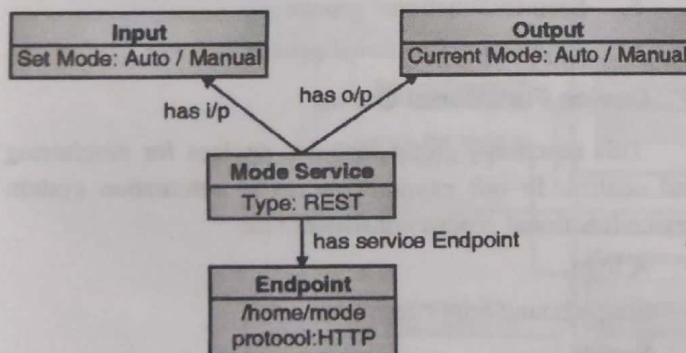
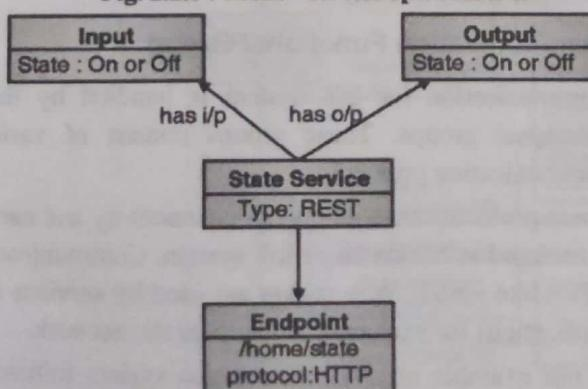
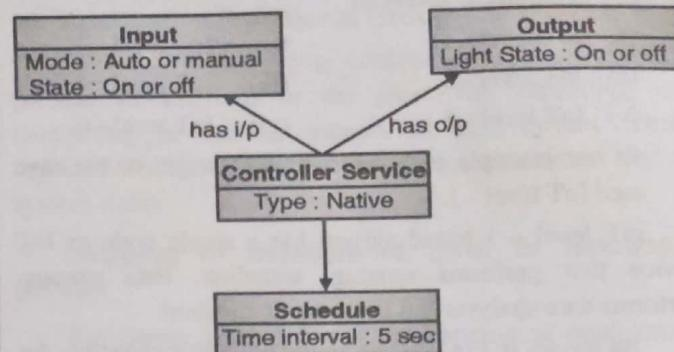

Fig. 2.2.6 : Mode - service specification
Fig. 2.2.7 : State Service Specification
Fig. 2.2.8 : Controller service specification
- Fig. 2.2.6 shows specifications of mode service. Fig. 2.2.7 shows specifications of state service and Fig. 2.2.8 shows the specifications of controller service. Some of the important details about mode service are: